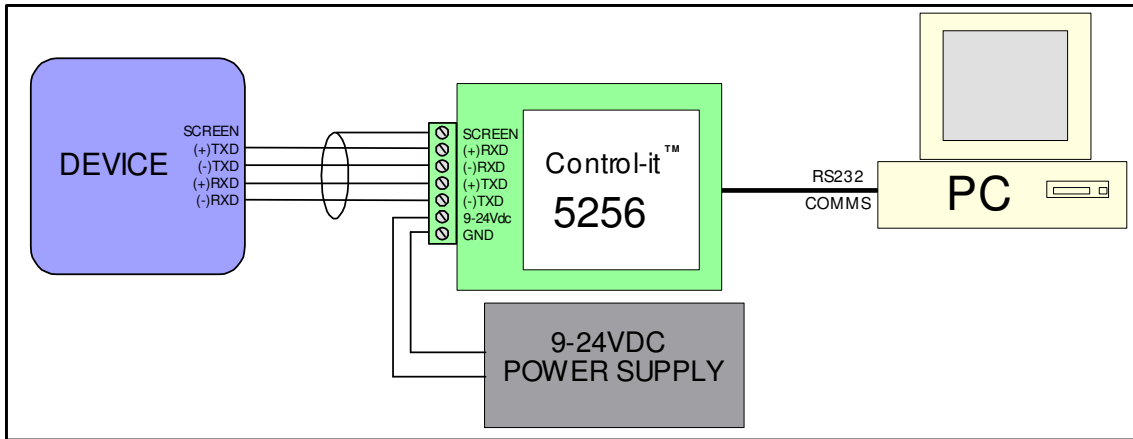

Figure 3
3. Wire the RS422 connector to your device as per figure 3. Refer to table 1 for data line connection details.